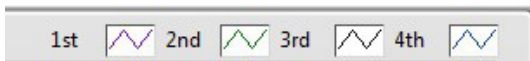

Fig. 27—The Channel icons are located in the top right corner of the main window.
1. To customize the channel display parameters, right click on the appropriate channel icon located in the upper right margin of the Chart area (Fig. 27). The popup (context sensitive) menu (right) opens.